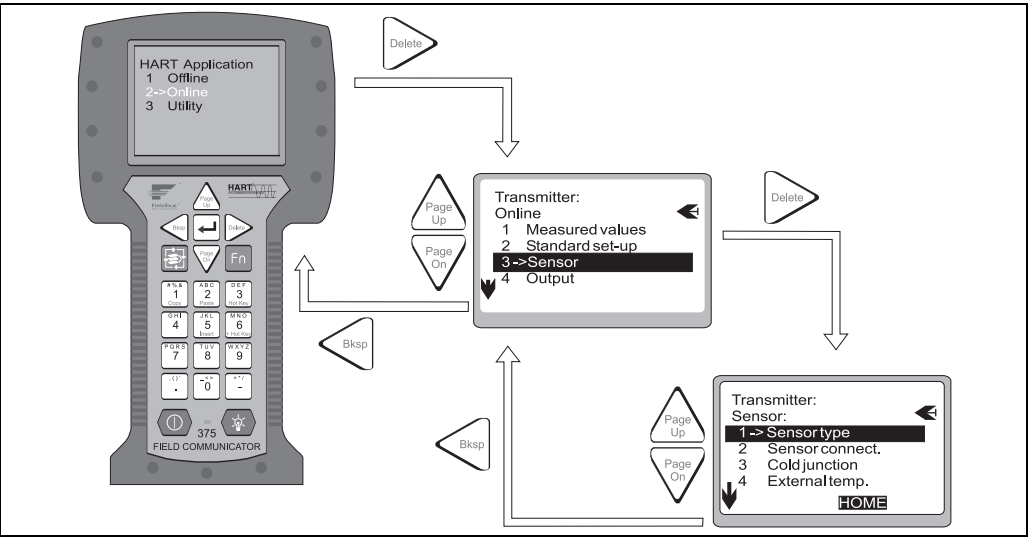

Fig. 11: Configuration at the handheld module, using 'Sensor input' as an example'
- Measuring device is already connected. The 1st menu level of the device function matrix appears directly (see Fig. 11). All the functions accessible under HART® are systematically arranged in this matrix.